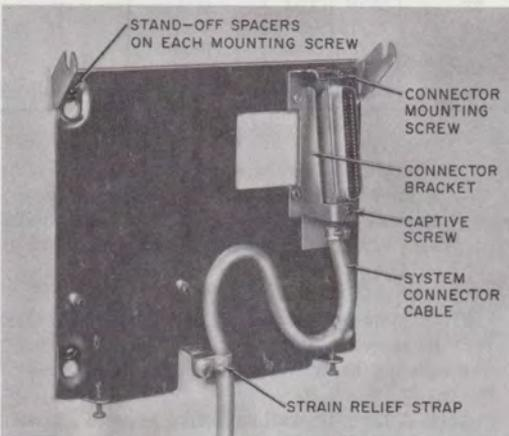

Fig. 12—Wall Mounting Plate With Connector Cable Attached
(a) A system cable can be run along the wall surface to the location where the set is to be mounted and connected directly to the set (Fig. 12).
(5) Start the lower bracket captive screw through the lower flange of the connector so that the connector is held loosely on the wall plate.
(6) Put the mounting screw removed in (3) back into the upper bracket and run it through the flange of the connector and into the floating clamp. Tighten the screw enough to pull the floating clamp up firmly against the underside of the flange, but **do not overtighten**.
(7) Tighten the lower bracket screw so that the connector is securely mounted and does not wobble or shift around.
(8) Place the strain relief strap on the cable about 6 inches from the connector. Secure the cable to the lower edge of the mounting plate with the cable positioned as shown in Fig. 12.